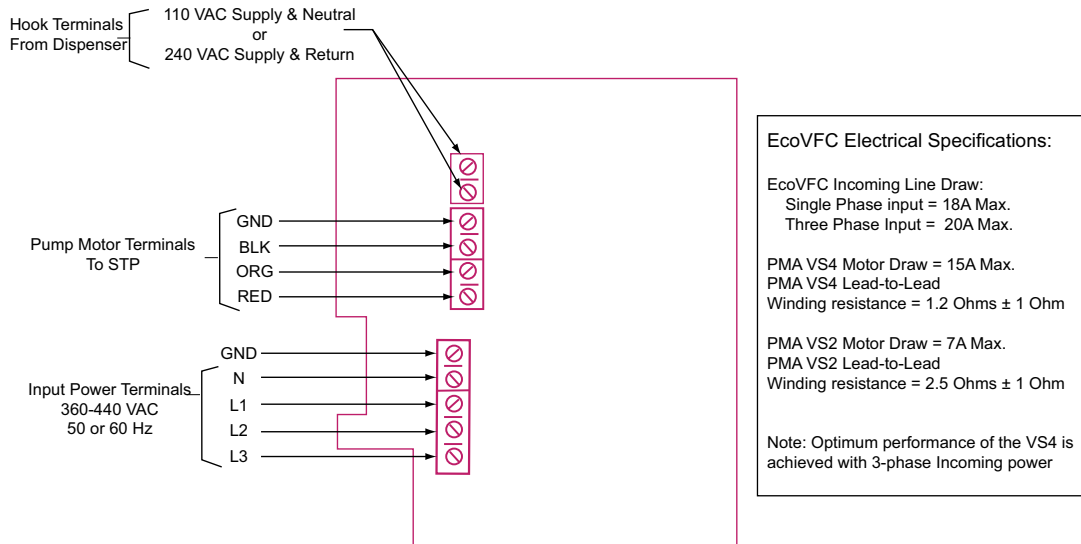

Figure 1: EcoVFC Wiring
- Refer to Figure 1. Connect the three motor control wires from the pump junction box to labeled terminals observing color coding of wires (Black to Black, Orange to Orange, Red to Red). Connect the ground wire from the submersible pump to the ground lug on the *EcoVFC* circuit board.
- Connect three phase, 200-250V, 50 or 60Hz power supply to terminals to N, L1, L2 and L3. Reference Figure 1 for wiring details.
Note: The *EcoVFC* may be connected to single phase power only if used with FE Petro pump motor model PMA VS2 with input power connected to L1 and L2. Refer to Figure 1 for wiring details.
- Connect dispenser hook signal to the two position terminal block on the *EcoVFC* board as shown in Figure 1.